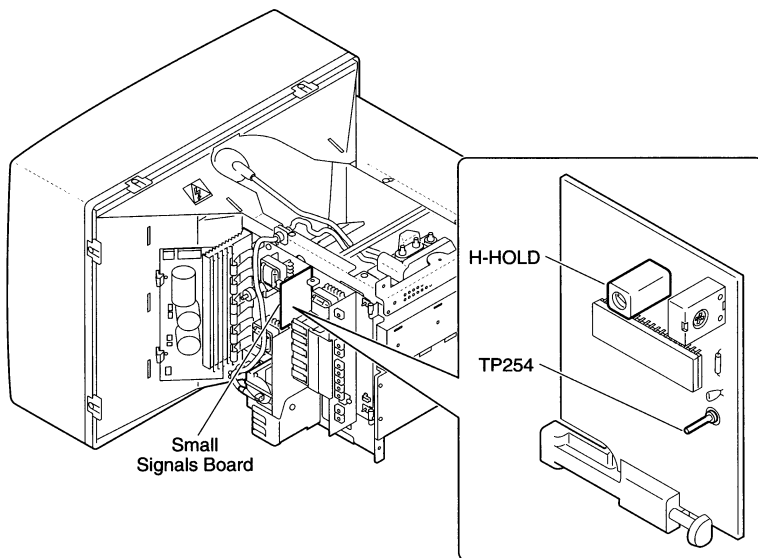

Figure 13 Horizontal Hold Adjustment Control and Test Point
2. FIGURE 13. Using the short (three-inch) insulated screwdriver and voltmeter, adjust the H-HOLD control until the voltmeter reads 4.1 volts (± 0.2 V) at TP254.